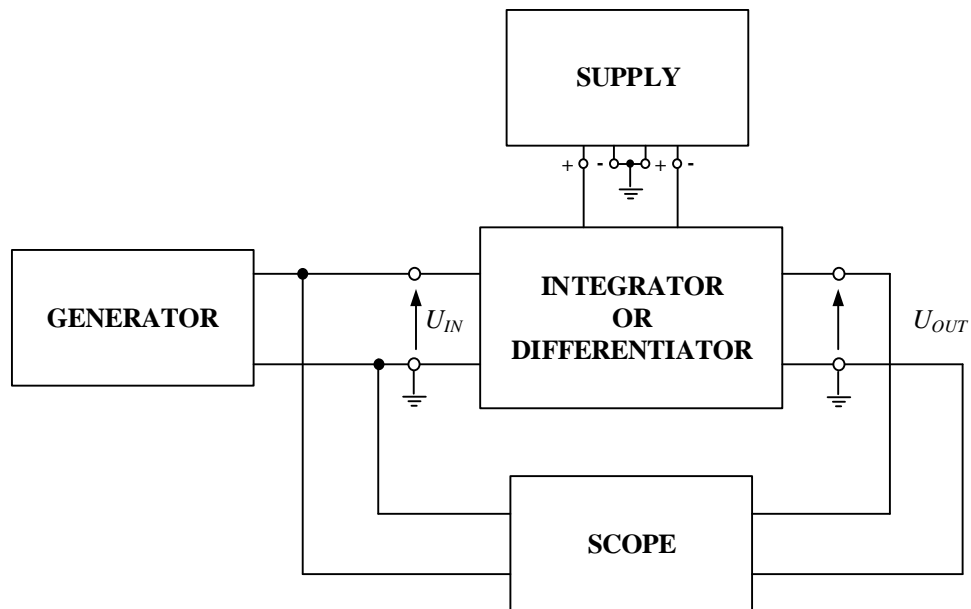

Fig. 7. Block diagram of measurement setup.
The basic differentiator system has many disadvantages: tendency to instability, decrease in gain for higher frequencies associated with the frequency response of the opamp, very low input impedance at high frequencies, large input voltage noise. These defects can be reduced by introducing an additional R_1 resistor in the system. The diagram of the modified differentiator system is shown in Fig. 7
As it results from the course of the Transfer function of this system (Fig. 7), the differentiation of sinusoidal signals takes place at frequencies f
- 4) Assemble the measuring system according to the diagram from Fig. 7, the tested system should be supplied with $\pm 12V$ voltage